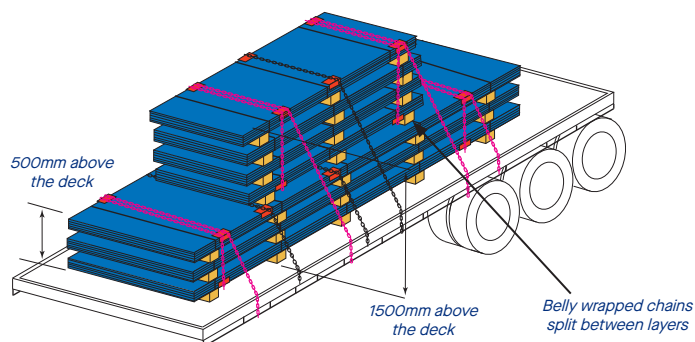

Fig.3.4: Total load 22 tonnes treated as two individual loads:
- Treat each pack size as an individual load and restrain as per the requirements of Table 1. (Fig.3.4)